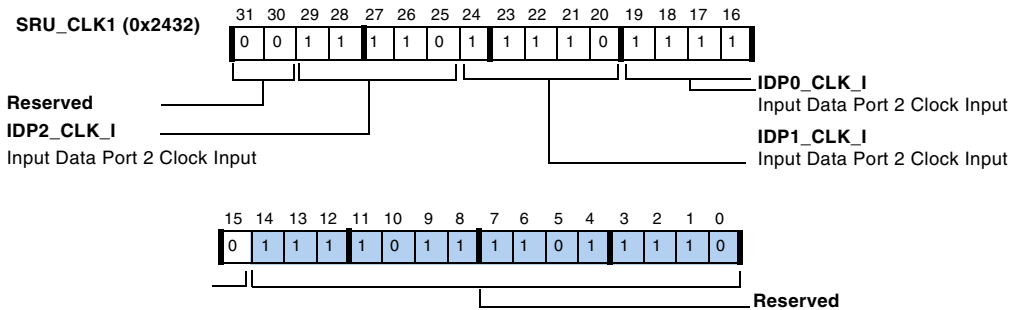

Figure A-35. SRU\_CLK1 Register
- SRU\_CLK1, described in Figure A-35